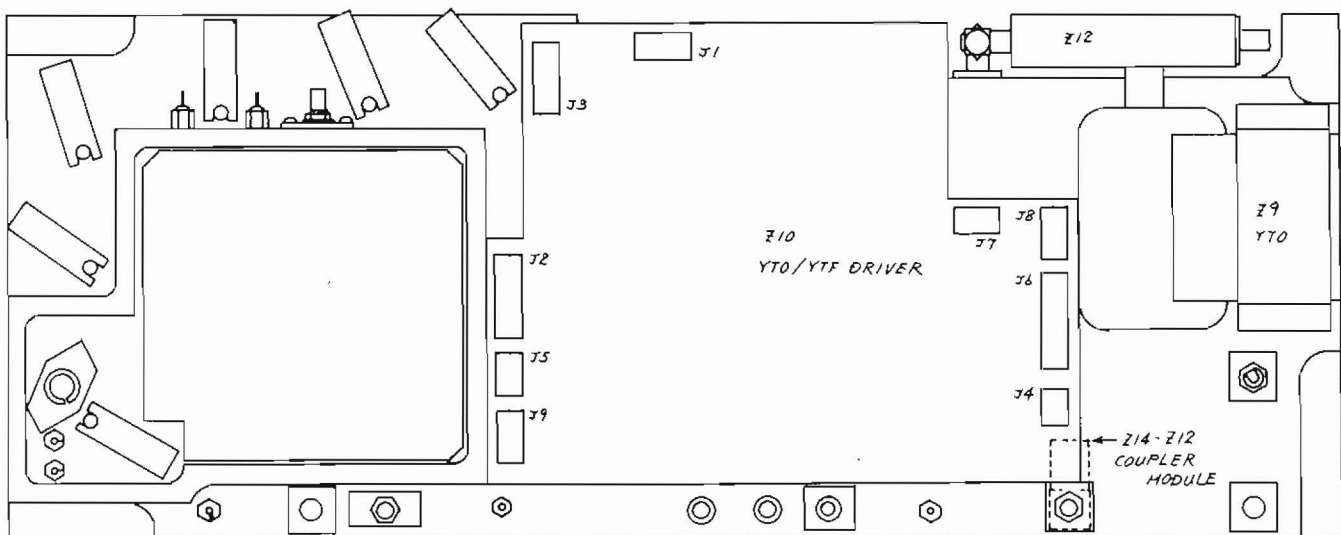

Fig. 5-9 Z9, Z10, and Z14-Z12 Parts Layout
Z9 YTO is the 2.2 to 6 GHz YIG-tuned oscillator used to generate the MS710[ ]'s first local signal. The power and tuning signals of this YTO are supplied from the Z10 YTO/ YTF driver. The first local signal is sent through the local amplifier Z6-Z1 and coupler Z6-W1 in the Z6  $\mu$  1st converter and the coupler Z7 (paragraph 5.4) to the Z14 0 to 2 GHz RF block and Z16 PLL block. Z9 and Z10 are mounted on the Z14 0 to 2 GHz RF block shown in Fig. 5-9.
1.	When the right-side cover is removed according to Fig. 2-1, the location of parts can be seen as shown in Fig. 5-9.